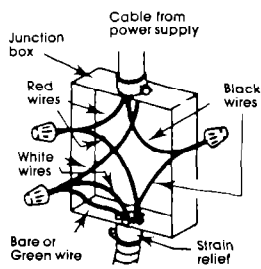

Figure 1
2. Connect the two black wires, then the two red wires. See Figure 1.